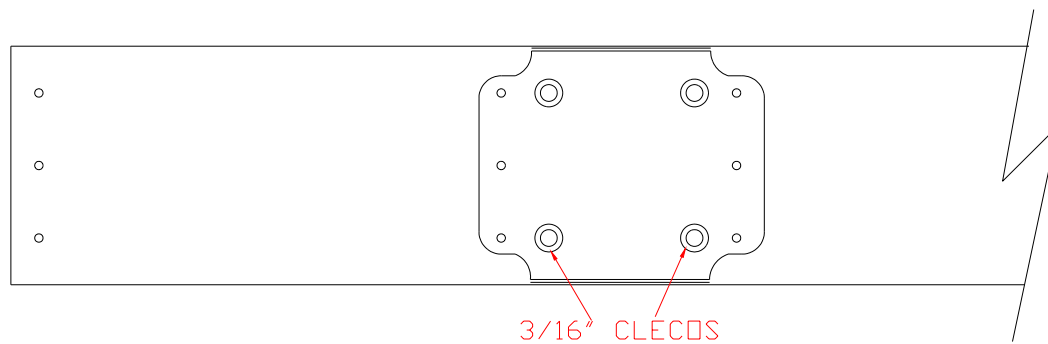

Figure 3.1.2
- 5) Cleco the four Elevator Hinge Doublers (EL-307) to the Elevator Spar (EL-309) using the four 3/16" holes that are in the Elevator Hinge Doublers. Figure 3.1.2.